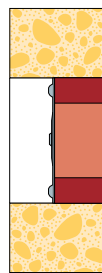

Fig. 9
**RGP** and **RGPO** frames are installed on one side of the wall when normal demands are made for fire safety, (see fig. 9.) When the safety demands are particularly high two RGP frames are installed back-to-back (fig. 10). RGP can be installed in drilled or cast holes, or in a pipe that is cast in or bolted. Casting is made easier if MCT Brattberg casting forms are used, see picture.